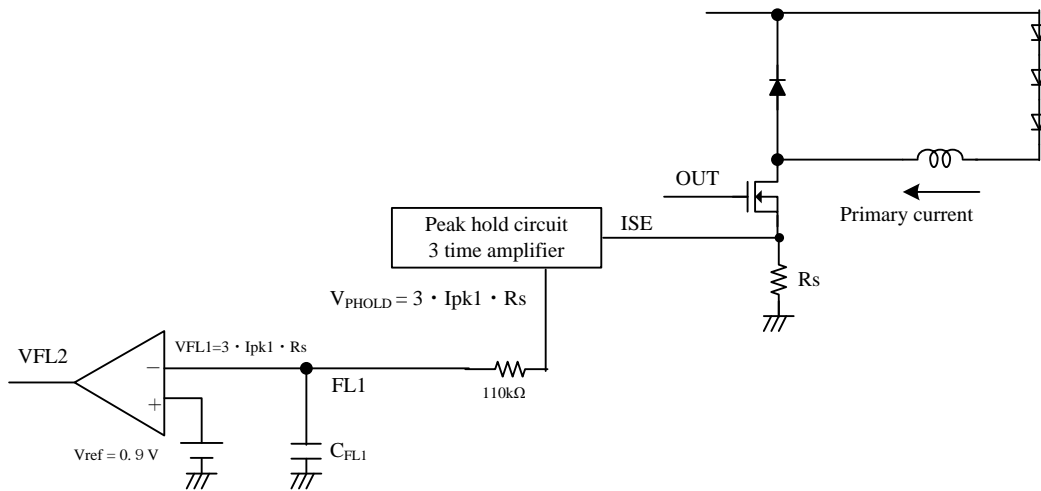

Figure 1.6 Step-down block diagram relation constant current operation
IC operation, how to control LED current (output current) to be a constant value, is explained as below. Figure 1.6 shows block diagram relating constant current operation. As  $V_{ISE}$  is proportional to primary current and sensing resistance  $R_s$ , ISE terminal can monitor primary current.  $V_{PHOLD}$  is the output of peak hold circuit. It outputs the peak value of  $V_{ISE}$  every switching cycle, shown by equation (7).